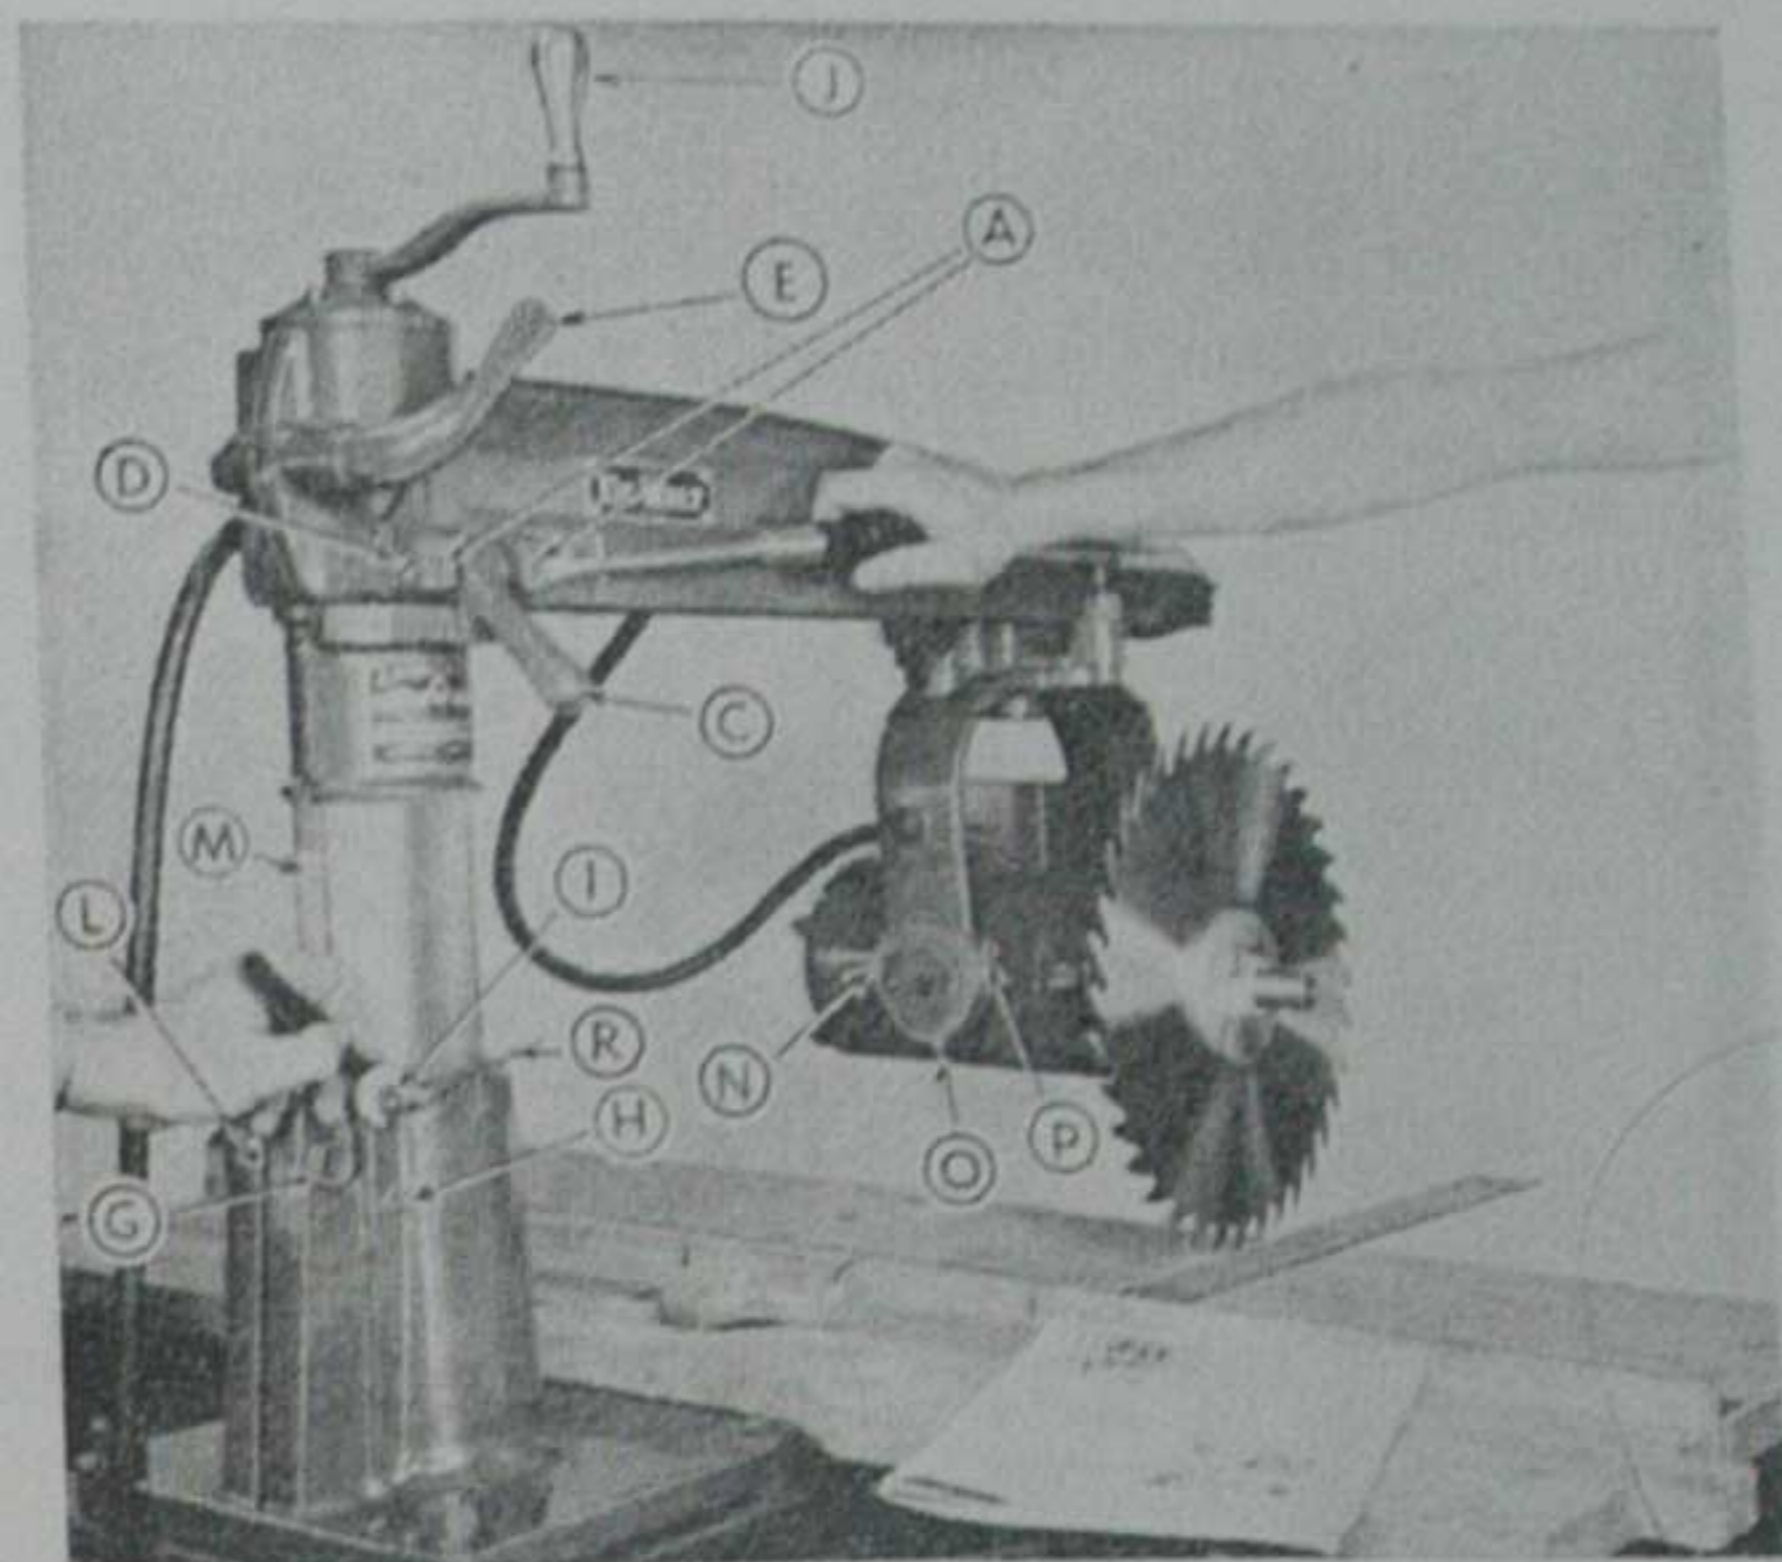

FIGURE 8
After you have checked the rotation of the arbor, place the arbor collars on the arbor with the **recessed side of the collars against the saw blade**. Figure 8 will show you the direction in which the teeth of the saw blade must point when the saw blade is in operating position. Securely tighten the arbor nut, which has a left hand thread. Be sure arbor collars, arbor nut and blade are clean when mounting.
1. Loosen the clamp handle (E, figure 8), and the miter latch (C).
2. Loosen set screws (A) which hold the adjusting screw (D) in position.
3. If, as it comes forward, the saw blade moves away from the steel square loosen rear adjusting screw (D) with a screw driver, and tighten the front adjusting screw. After this adjustment, the miter latch must move freely, but without **side play!**
1. Loosen the base pinch bolt (G, figures 8 and 11), all hex jam nuts (H), and set screws (I).
2. Rotate the elevating handle (J) to raise or lower the column. Tighten the base pinch bolt (G) until the column moves easily within the base. This adjustment does **not** remove the side play from the arm. This is merely a preliminary adjustment.
3. The gib (L, figure 8) must shoulder firmly against the column key (M). To place the gib in its proper position, tighten the two set screws (H and I) until the side play is removed from the arm and the column of the arm can be easily raised and lowered.
4. Lock the hex nuts (H).
2. If the rear saw teeth leave a heeling mark on the left side of the cut material, loosen the set screw (P, figure 8), and tighten the set screw (N) with wrench (R).